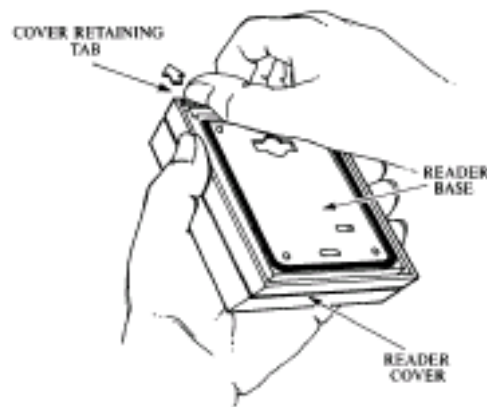

Figure 4
- 7) Hold the reader in the palm of your hand with the base facing up, and with the card insertion slot pointing away from you, as shown in FIG.4. With the reader placed as shown in FIG.4, push the cover retaining tab (about 1/16") using your thumb nail until that slide "pops" free.